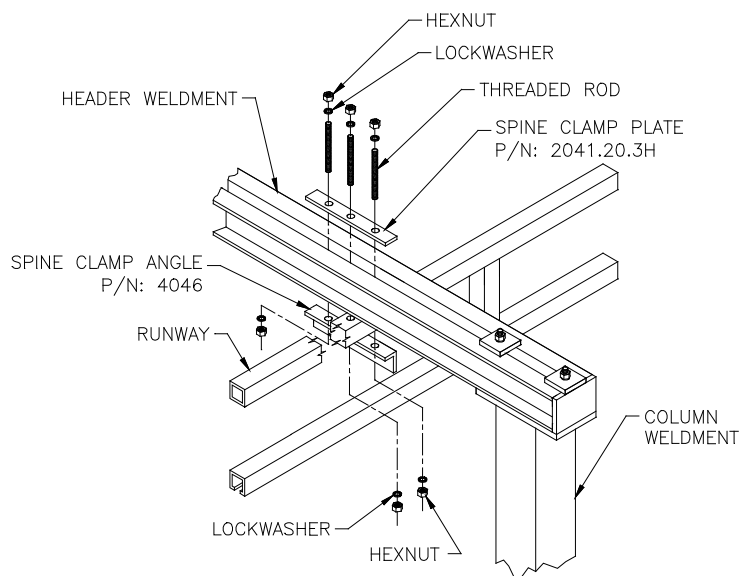

Figure 1.
2. Using the three hole clamp plates and hardware provided, attached runway section to header weldment, as shown in Figure 1.